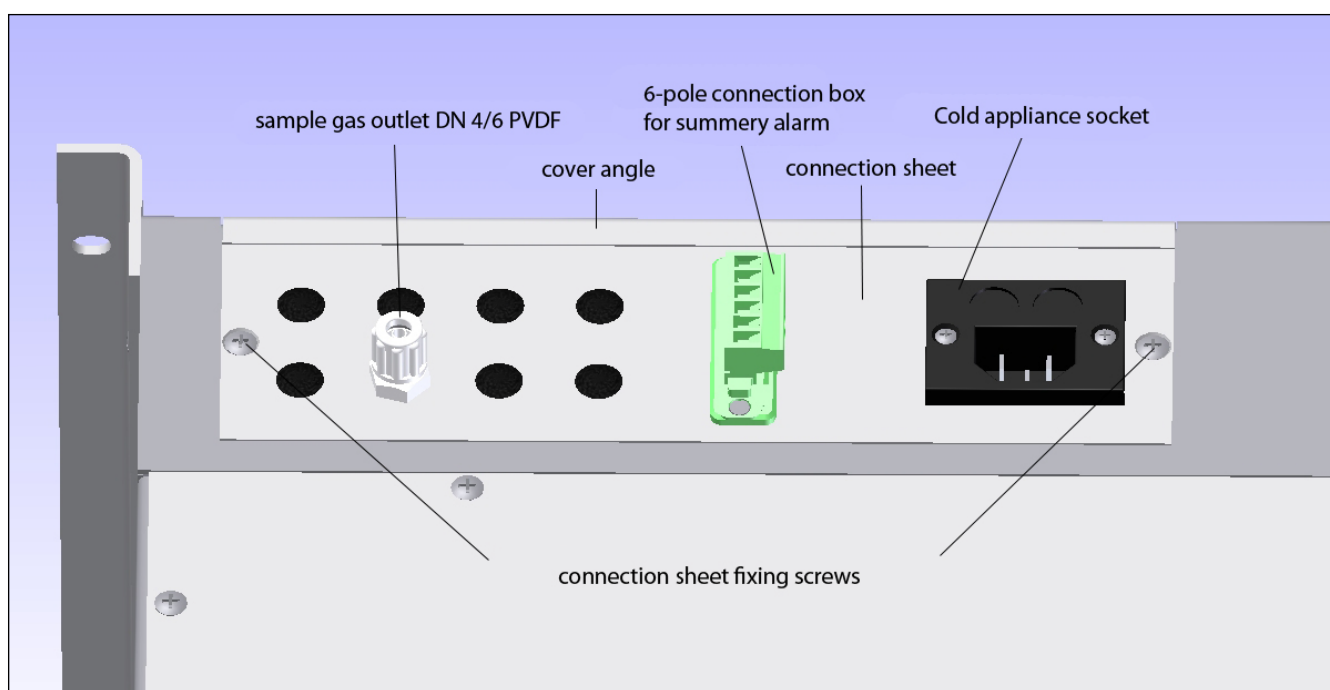

Figure 5 Hose connections **CSS-V1**
Contrary to Figure 5, version **CSS-V2** has two sample gas outlets. The condensate connections are carried out directly at the peristaltic pump.
1. Remove connection sheet fixing screws (see Figure 5)